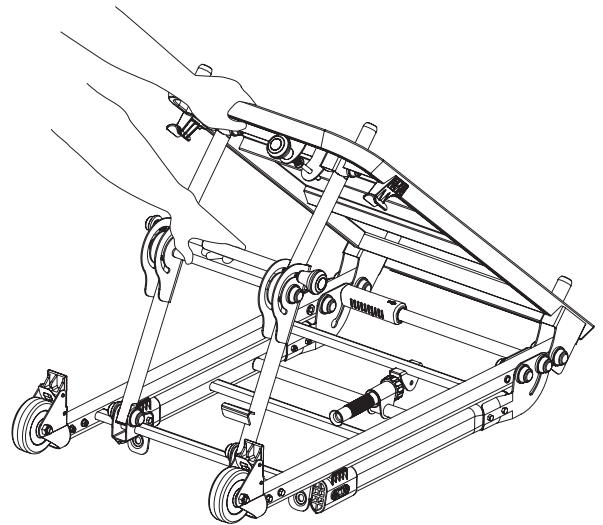

Fig. 6
3. Continuing to lift the handle, pull the crossbar out until you hear the legs lock in place (Fig. 6).